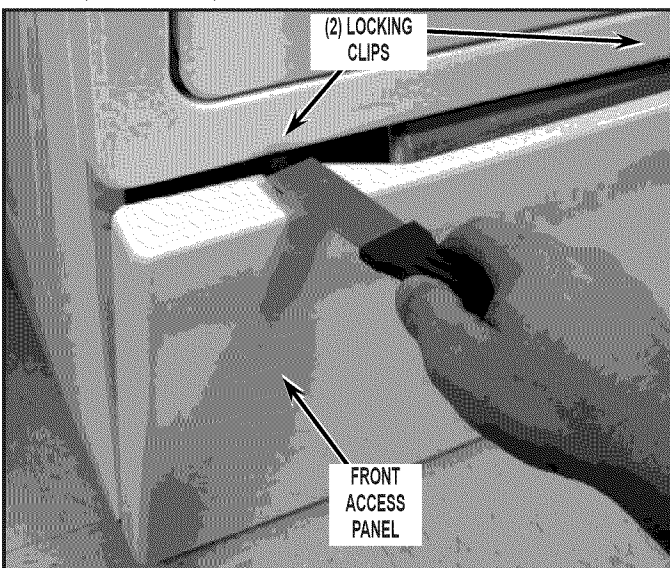

FIGURE 1
- a. If the panel is rectangular, depress two (2) locking clips with a putty knife. See *Figure 1*. Each locking clip is about 4" (10 cm) from each panel corner.